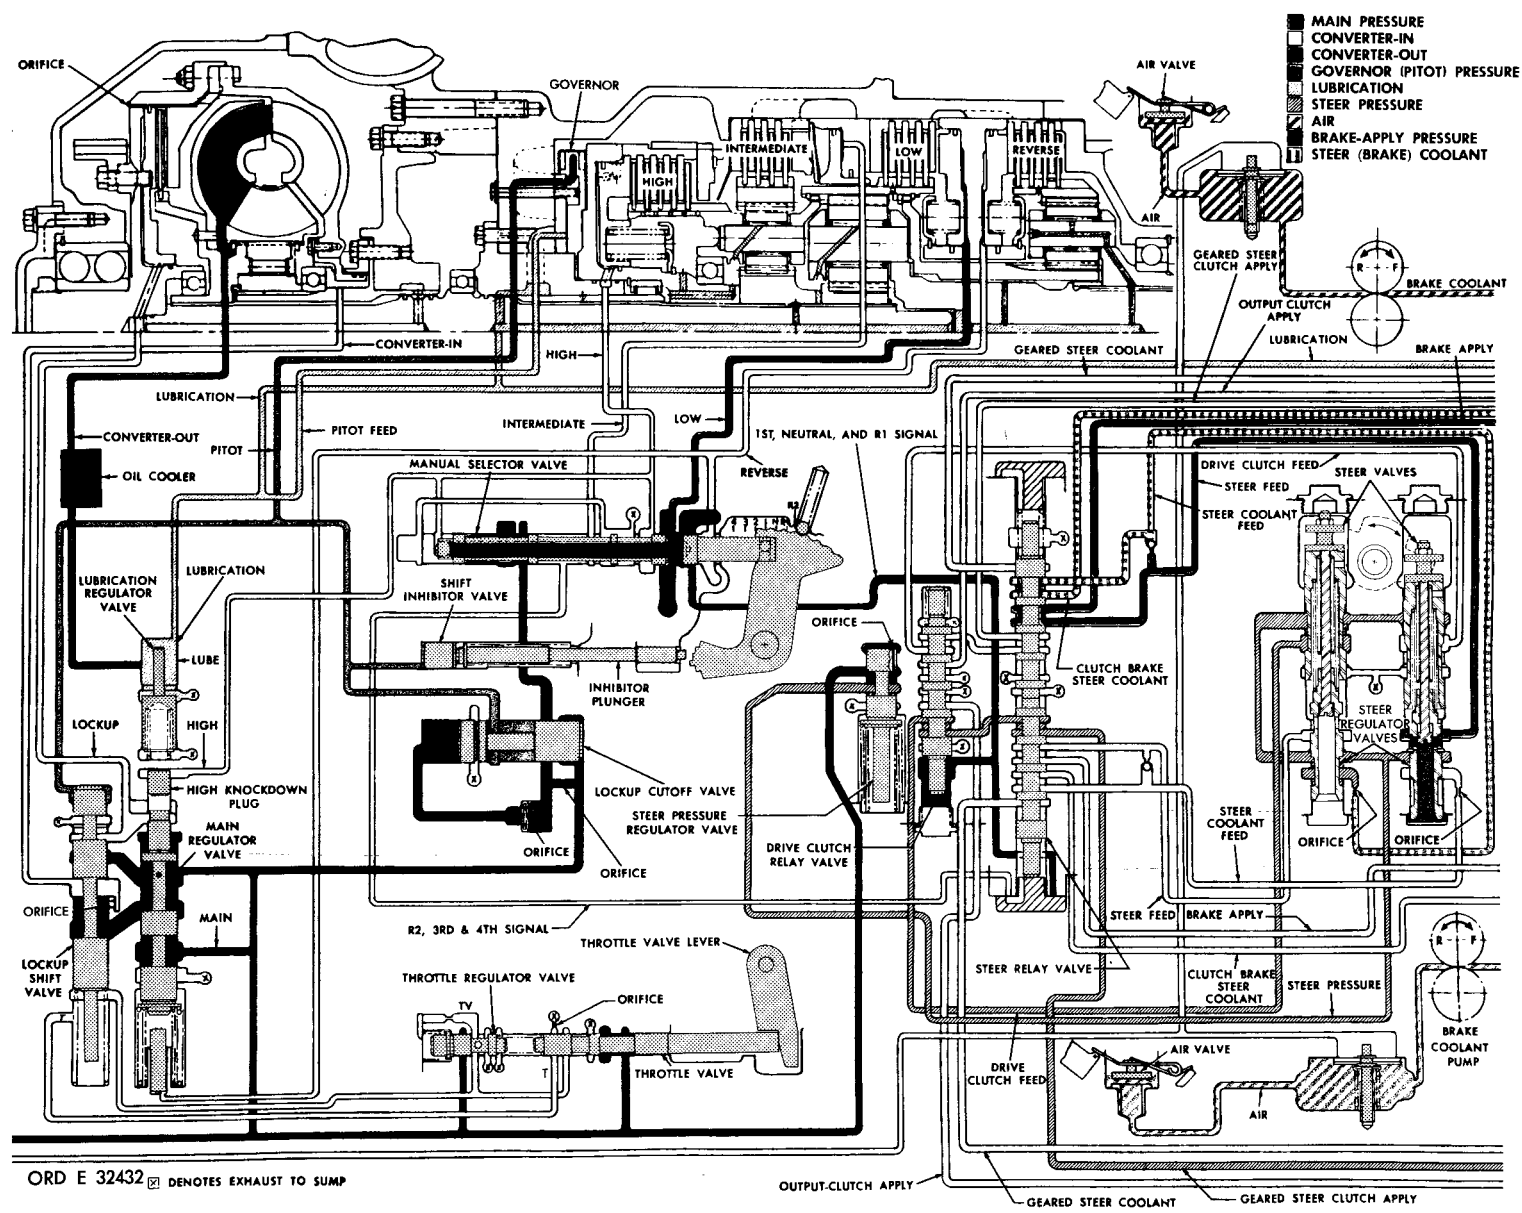

Figure 13. Hydraulic system, first gear, right steer — schematic view
a. First Gear, Full-right Steer (fig. 13)